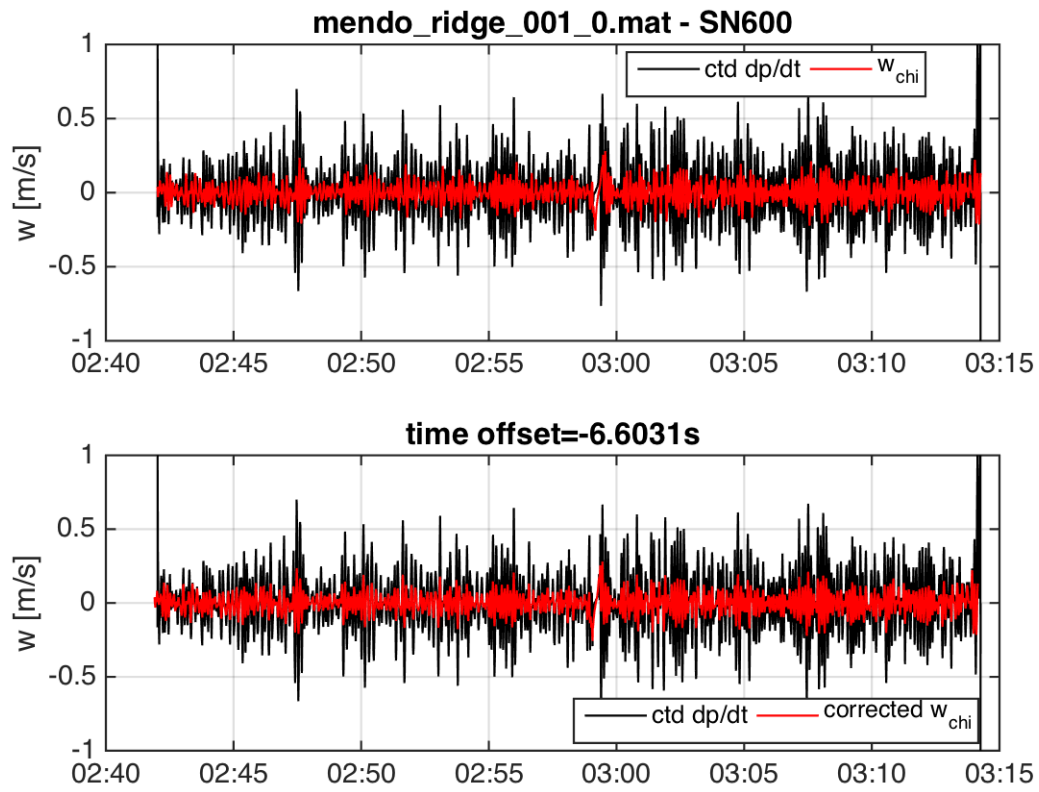

Figure 3: Time series of dp/dt CTD and chipod w . Top is original, bottom is after time-offset applied to chipod.
- cast_001_w_TimeOffset (Figure 3)